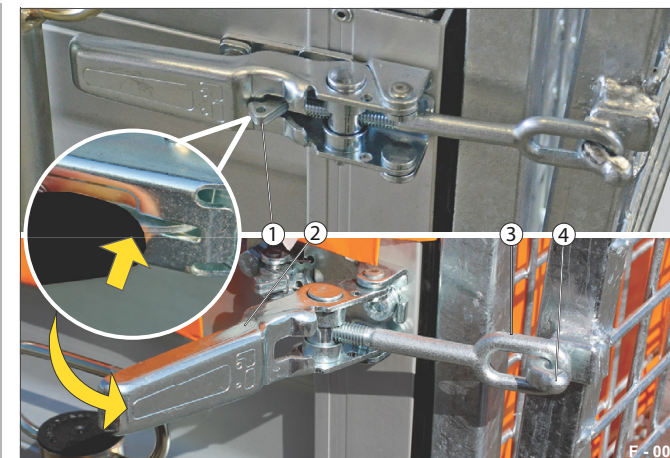

Fig. 10 Ramp wall connection
- Press the snap lock (Fig. 10 /1) in.
- Pull the quick-release lever (Fig. 10 /2) open and take the ring (Fig. 10 /3) off the hook (Fig. 10 /4).